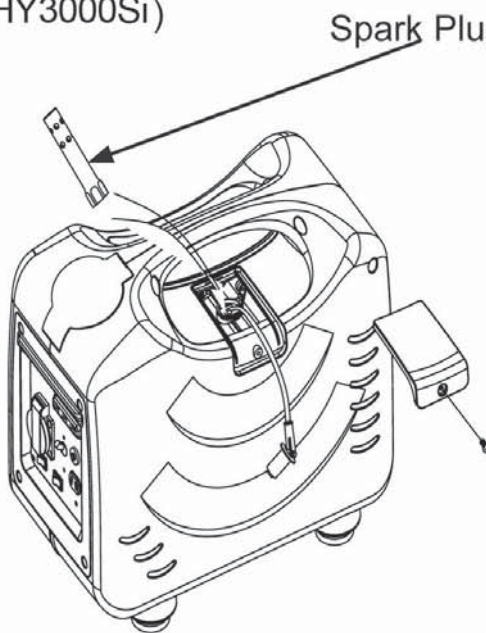
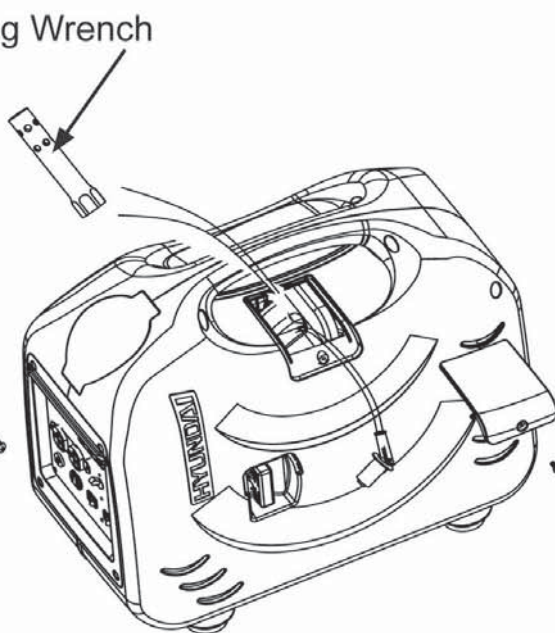
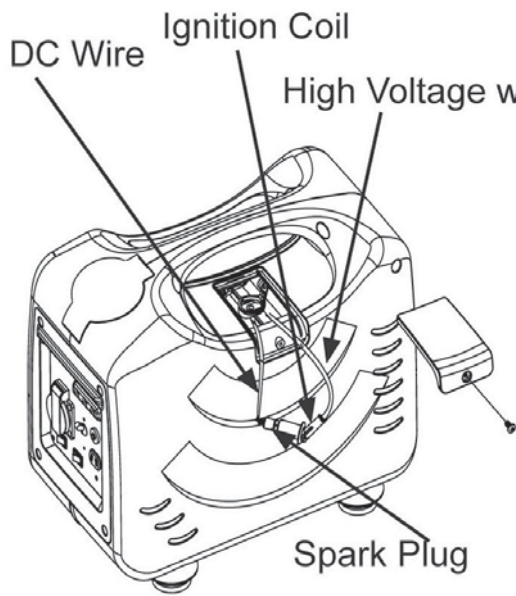
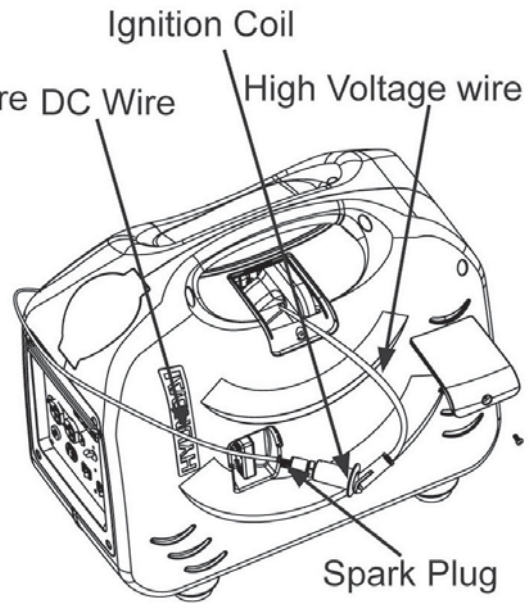

Fig. 5.9
Fig. 5.10
Fig. 5.11
Fig. 5.12
4. Use a wrench to remove the spark plug (Refer to Fig. 5.9 and Fig. 5.11 for HY1000Si, Fig. 5.10 and Fig. 5.12 for HY2000Si HY3000Si)